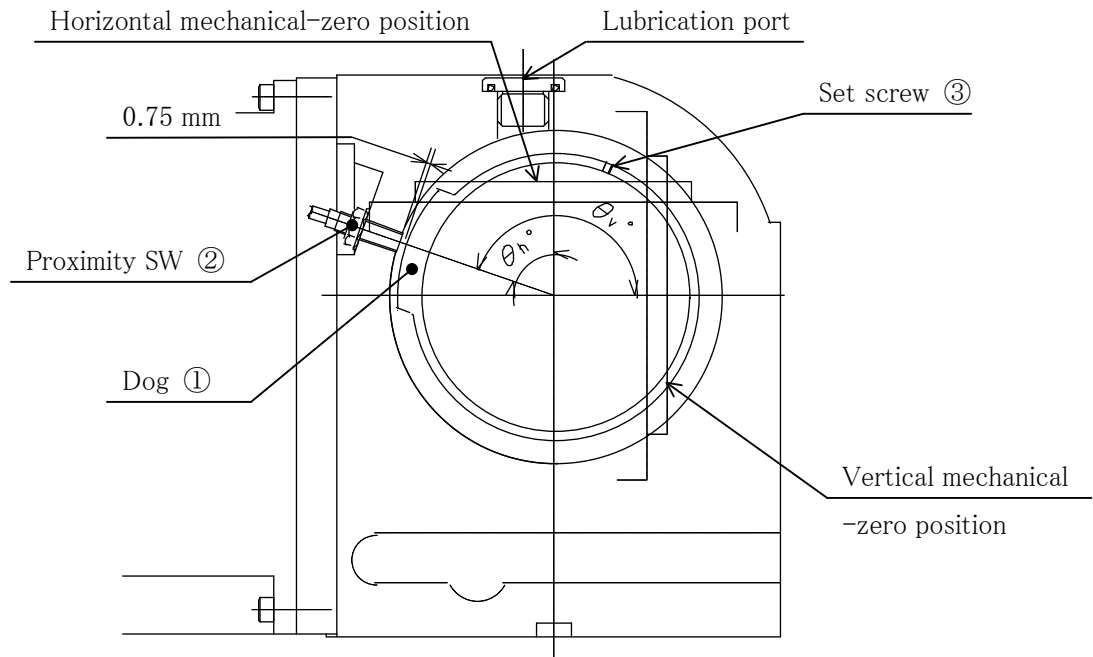

Fig.11 (TT(M)101)
### 10-3-2. Tilting axis ZRN device (See Fig.11: TT(M)101)
The horizontal table face is the datum as the standard specification. The dog ① of Fig.11 is detected with the proximity switch ②.